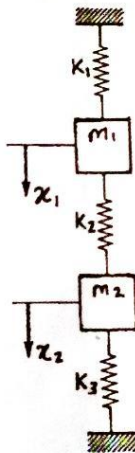

Fig. 4
3. (a) Refer Fig.4 where  $k_1 = k_2 = k_3 = 25 \text{ N/cm}$  while  $m_1 = m_2 = 0.8 \text{ kg}$ . Determine the natural frequencies and mode shapes of the given system. Write the equation of motion for the masses if masses  $m_1$  and  $m_2$  are both given an initial downward displacement equal to 2 cm and then released.